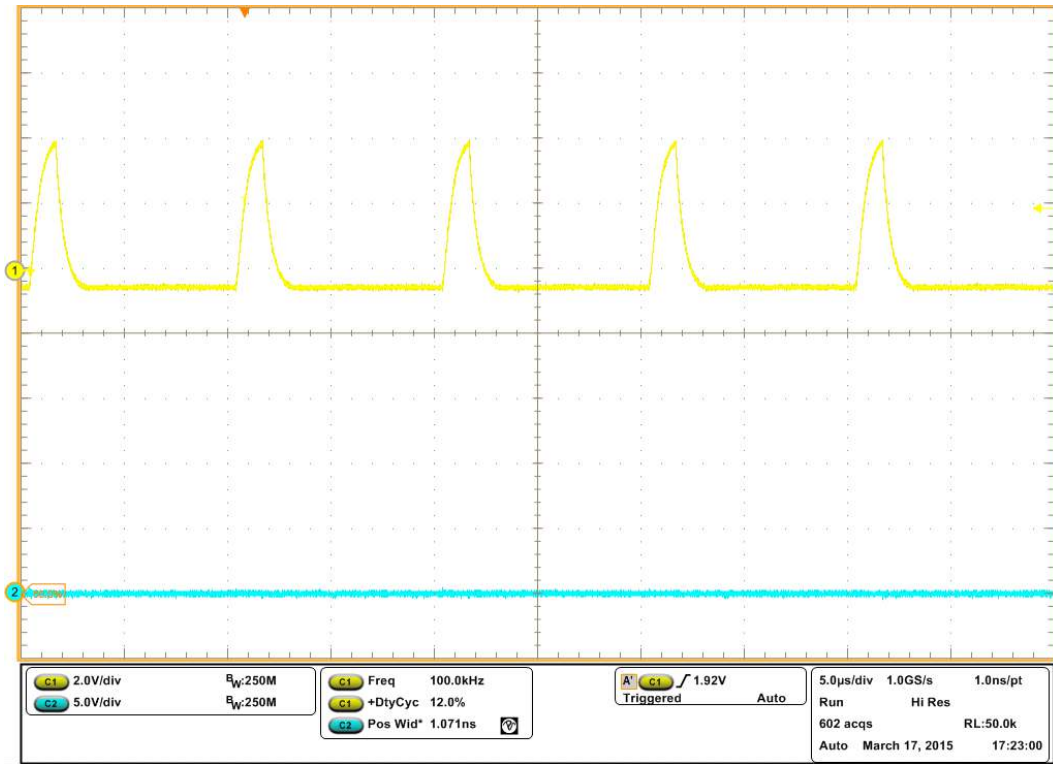

Figure 3: $V_{CC} = 12\text{ V}$, $f = 100\text{ kHz}$, $DC = 13\%$, $V_{LOW} = -1\text{ V}$, $V_{HIGH} = 4\text{ V}$
6. Check that $I_{CC} = 1.6 \text{ mA}$, waveforms look like in figure 3 (no DRV pulses)